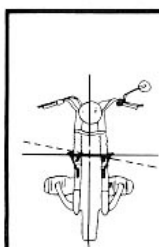

fig. 7
- b. Check bracket for horizontal alignment. If adjustment is required, tap bracket to level position - see figure 7.